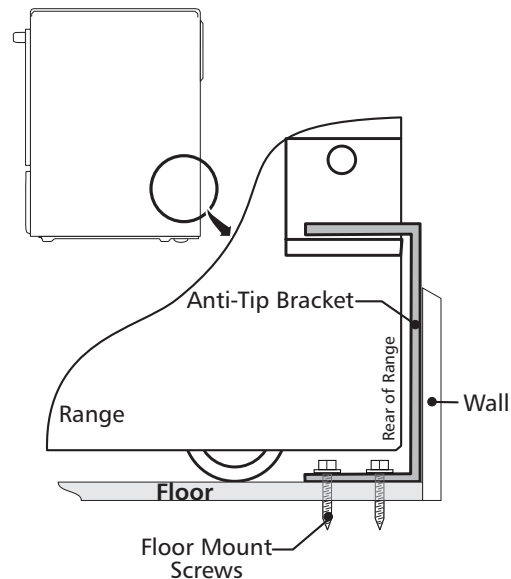

Figure 13
4. Remove template and place bracket on floor. Line up holes in bracket with marks on floor and attach with 4 screws provided. Bracket must be secured to solid floor (Figure 13). If attaching to concrete floor, first drill 3/16" (0,48 cm) dia. pilot holes using masonry drill bit.
6. Slide range into place making sure structure of the range is trapped by the anti-tip bracket (Figure 13). Lower the range by adjusting the 4 levelling legs until the underside of the cooktop is sitting level on the countertop. Refer to "Levelling the Range" section.